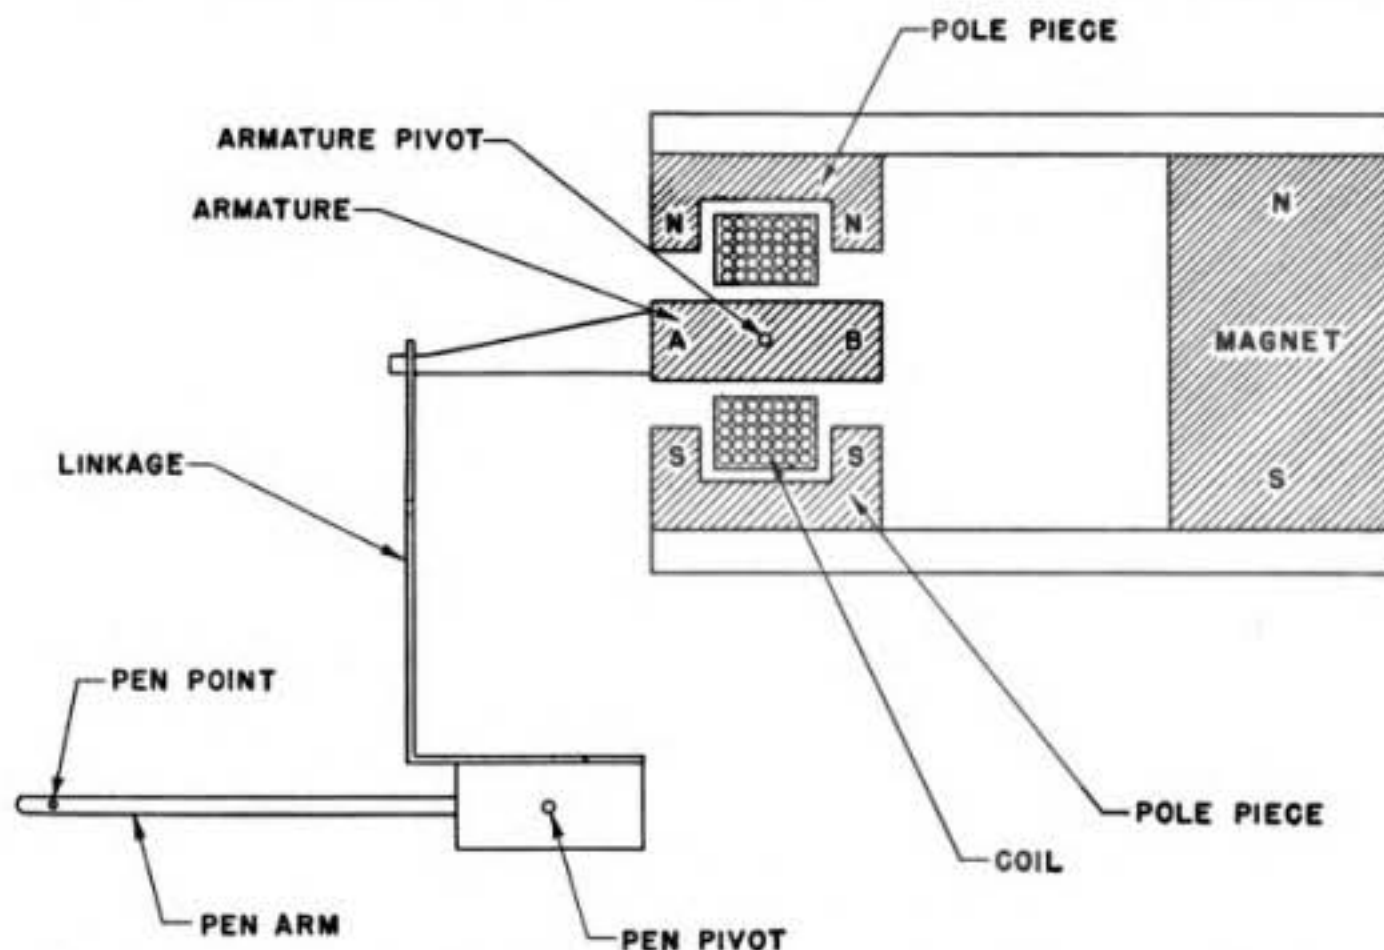

Figure 10—Recorder BC-1016, Pen Drive Unit—Operational Diagram.
e. During the time when no signal is received at the recorder input the resultant bias on the grid of tube 6 is negative to the point of cut off so that no current flows in its plate circuit. At the same time, tube 5 is biased to a very low negative value and current flows in its plate circuit through one half of the coil of the pen drive unit (33). Under these conditions the armature is so polarized that end A is north and B is south (FIG. 10). The resulting magnetic force moves the pen away from the panel to what is known as the space side of the tape.
f. When a signal is applied to the input of the recorder the above action takes place in the opposite direction, the grid of tube 5 being negatively biased to a high value and that of tube 6 to a low value. Current then flows in the plate circuit of tube 6 and through the opposite half of the coil of pen drive unit (33). This reverses the polarity of the armature so that end A is south and B is north (FIG. 10), and the pen moves toward the panel to the mark position.
13. SLOPE CONTROL.—The SLOPE control (25) functions to adjust the minimum bias voltage on the grids of the pen driving amplifier tubes (5 and 6), varying the amount of current which flows in the anode circuits of these tubes and, consequently, the amount of power the pen drive unit receives. The rate of travel of the pen across the surface of the tape is determined by the amount of power applied to the pen drive unit; it is possible to vary the slope of the characters by means of this control.
15. KEY.—The key terminals (44) are arranged so that the closing of the key removes the bias from the input grid of tube 3. This initiates the same trigger action as results from the application of a signal to the recorder input.